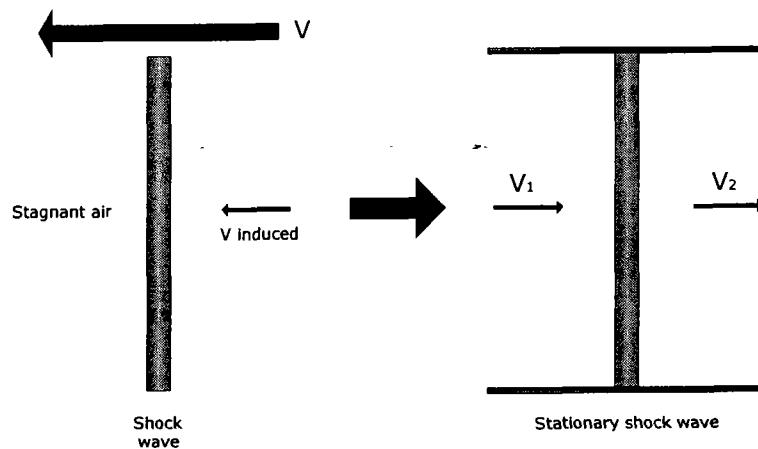

Figure Q4[b]
- [b]** A normal shock wave propagates through stagnant air at standard conditions at a speed of 720 m/s as shown in Figure Q4[b]. Determine the speed induced ($V_2 - V_1$) immediately behind the shock wave. Take $T=20^\circ\text{C}$ and $\gamma = 1.4$.